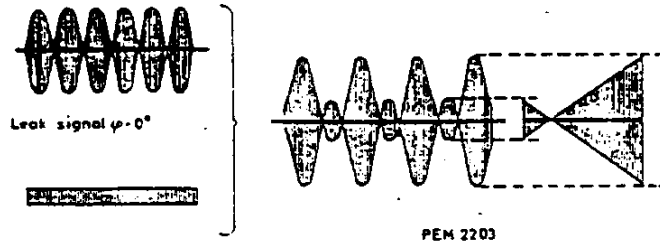

Fig. V-12b
- in phase ( $\varphi = 0^\circ$ ) with the modulated signal, and thus put the modulator into active unbalance (see Fig. V-12b and V-14);